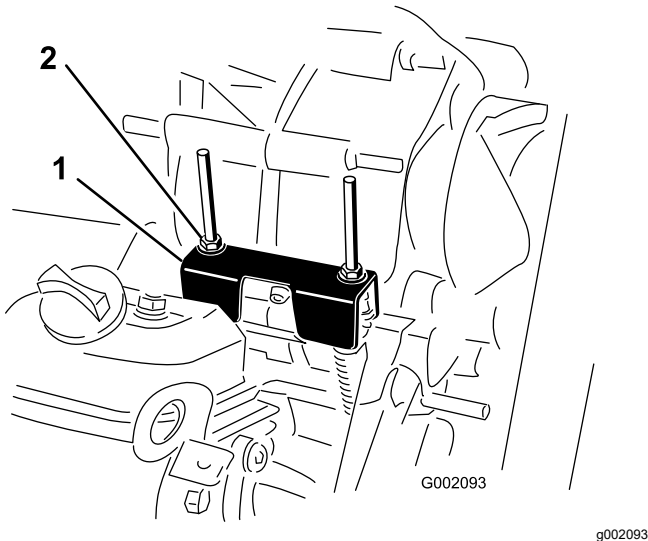

Figure 61
When performing routine maintenance and/or engine diagnostics, the transaxle must be shifted into NEUTRAL (Figure 61). The machine has a NEUTRAL position on the shift lever, which controls the neutral in the transaxle. Perform the following steps to ensure that the neutral shift lever operates the transaxle neutral correctly:
2. Ensure that the neutral bracket is in the NEUTRAL position (level to the cable mounting bracket located below the shift bracket) by turning the driven clutch (Figure 61).
3. Rotate 1 of the locknuts (Figure 61) to achieve a 0.762 to 1.524 mm (0.030 to 0.060 inch) gap between the bottom of the nut/washer and the neutral bracket.